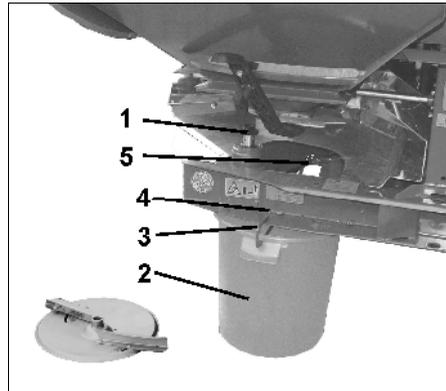

Fig. 33
- Unscrew the thumb nut (Fig. 33/1) for fixing the left hand spreading disc and pull the spreading disc off the gear box shaft.
- Hang the calibration bucket (Fig. 33/2) with its handle (Fig. 33/3) into the rear retainer and the front retainer (Fig. 33/4 und Fig. 33/5) on the frame.